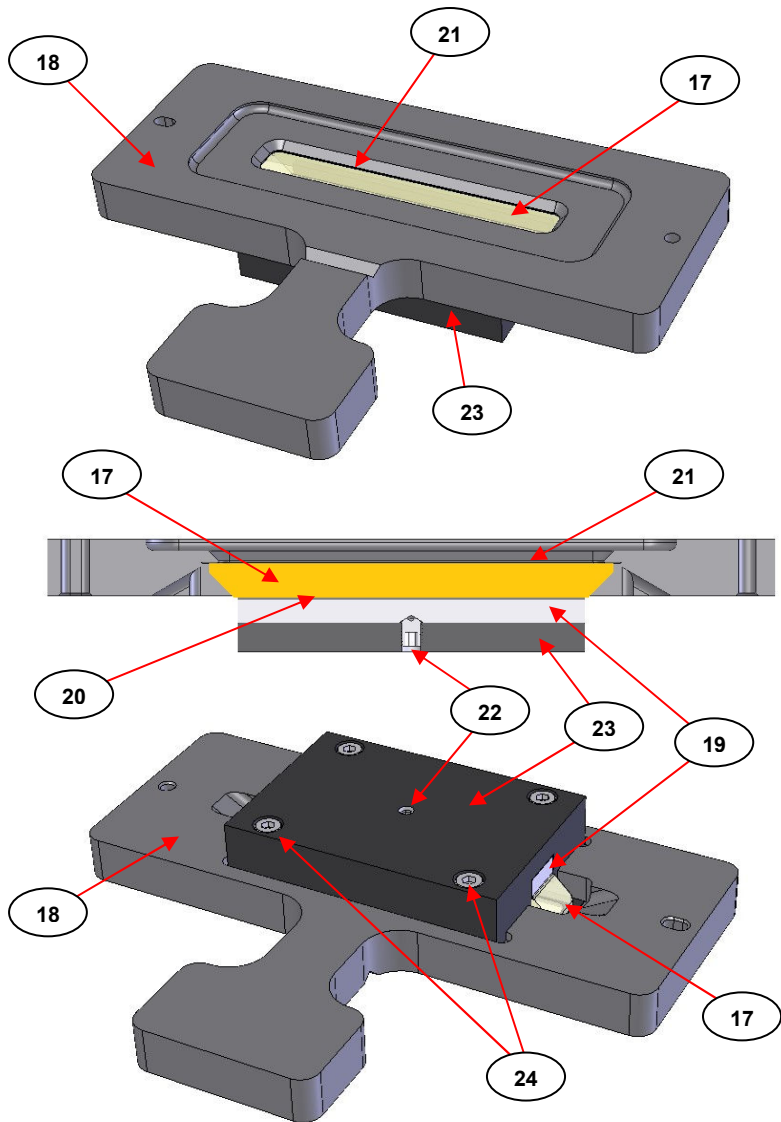
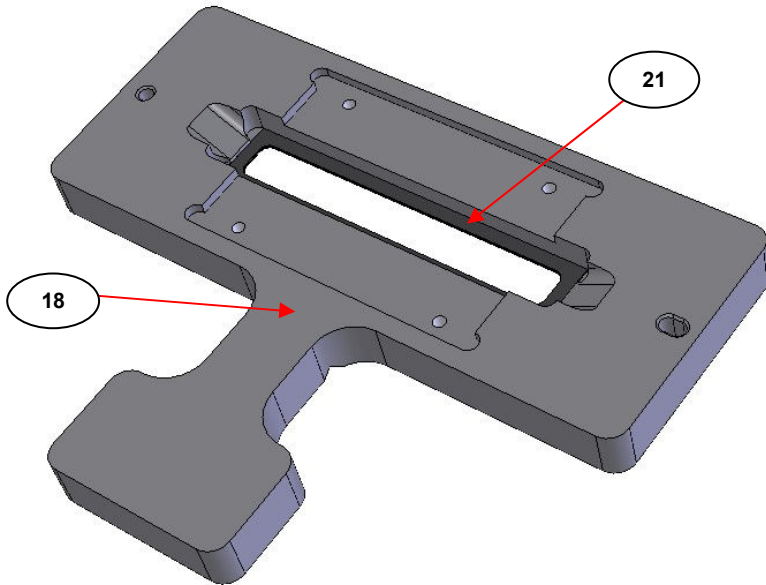

Fig 7. Gateway™ ATR Accessory Trough Top Plate Assembly, Top, Side (Cross Section) and Underside Views
Fig 8. Isolast Gasket in the Trough Top Plate Assembly
The ATR crystal (17) in the trough (3) top plate assembly is held in place within the surrounding plate metalwork (18) from a pressure bar (19) that pushes against the underside of the crystal (17) via a lead pad (20) and seals the crystals (17) top surface against an Isolast gasket (21). A central M4 x 5mm grub screw (22) within a base support plate (23) is tightened to provide the force to the pressure bar (19) for sealing of the whole assembly of parts. The base support plate (23) is held in place by four M3 x 12mm cap head screws (24). This design for a trough (3) top plate assembly allows for removal of the crystal (17) for cleaning or for a change of crystal (17) completely if damage has been sustained or for use of an optional ATR crystal (17) material. (See **Fig 7**. – Underside View.).
- 1) Carefully remove the ATR crystal (17) as described in the procedure on pages 16 and 17.
- 2) Remove the Kalrez gasket (21) seal from the recess of the trough top plate metal work (18). (See **Fig 8.**) Depending on its condition it may come away in one piece or in fragments, but ensure that all parts of the old Isolast gasket (21) are removed from the area.
- 3) Using a solvent such as acetone to moisten a soft, lint free cloth, thoroughly clean the areas of the trough top plate metalwork (18) where the Isolast gasket (21) had made contact.
4) Place a new Isolast gasket (**21**) seal (from P/N GS11167) in place of the original seal, centrally in the recessed back face of the trough top plate metal work (**18**). (See **Fig 8.**) Ensure that the gasket (**21**) lays flat within and tight to the edges of the recess.
- 1) Lay the top plate metalwork (18) with the Isolast gasket (21) fitted, upside down on a clean, flat, soft tissue covered surface as shown at Fig 8.
- 2) Carefully take the ATR crystal (17) and gently position it with the longest surface downwards onto the Isolast gasket (21) seal. Be very careful to ensure that the crystal (17) is centrally positioned in the recess before replacing the lead pad (20), pressure bar (19) and base support plate (19).
- 3) Carefully position the lead pad (20) completely over the shorter underside surface of the crystal (17) and then place the pressure bar (19) with the central dimpled recess side uppermost on top of the lead pad (20). Ensure that these parts are in **exact central alignment** with the ATR crystal (17).
- 4) Take the support plate (23) (with the partially loosened grub screw (22) in place) and very carefully place it the correct way up over the pressure bar (19) and lead pad (20) and allow it to locate into the larger rectangular recess on the underside of the trough (3) top plate metalwork (18). When the crystal (17) has been positioned correctly and centrally it will be sitting in the grooved recess of the support plate (19) with just the angled faces of the ATR crystal (17) showing at each end. (See underside view at Fig 7.)
- 5) Fix the support plate (23) to the trough top plate metalwork (18) using the four M3 x 12mm screws (24) turning them clockwise with the 2.5mm A/F Allen key until tight. At this stage the assembly of crystal (17), lead pad (20) and pressure bar (19) will still be a loosish fit so when tightening the screws (24), be careful that these parts do not move out of their central alignment.
- 6) When the four screws (24) are tight, finally use the 2.0mm A/F Allen key to turn the central grub screw (22) until it just begins to tighten against the recessed dimple in the pressure bar (19). At this stage it should then only be necessary to turn the grub screw a maximum of a further 1/8th turn (45°) clockwise to provide the